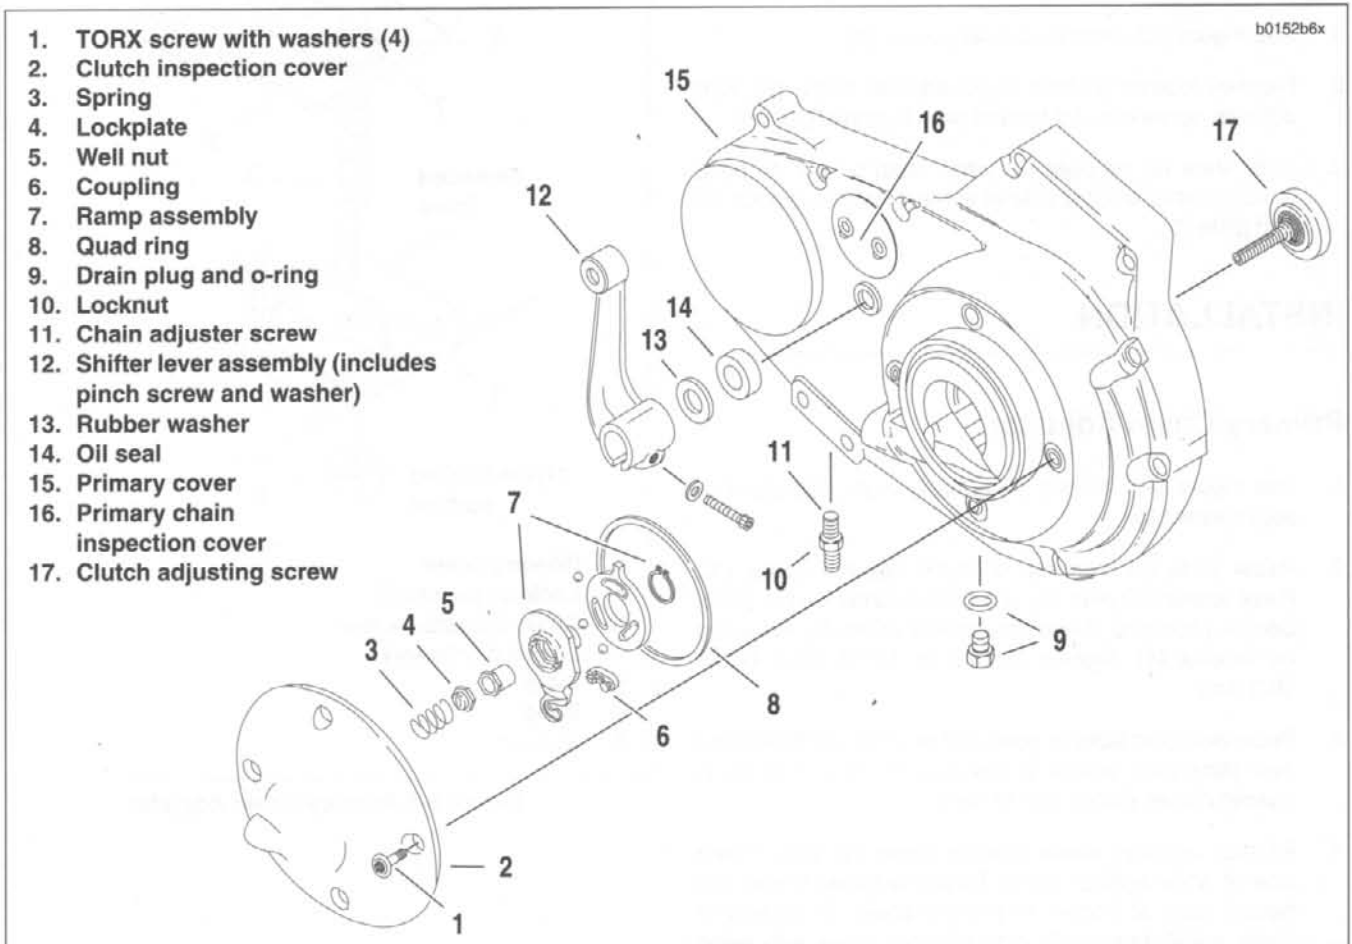
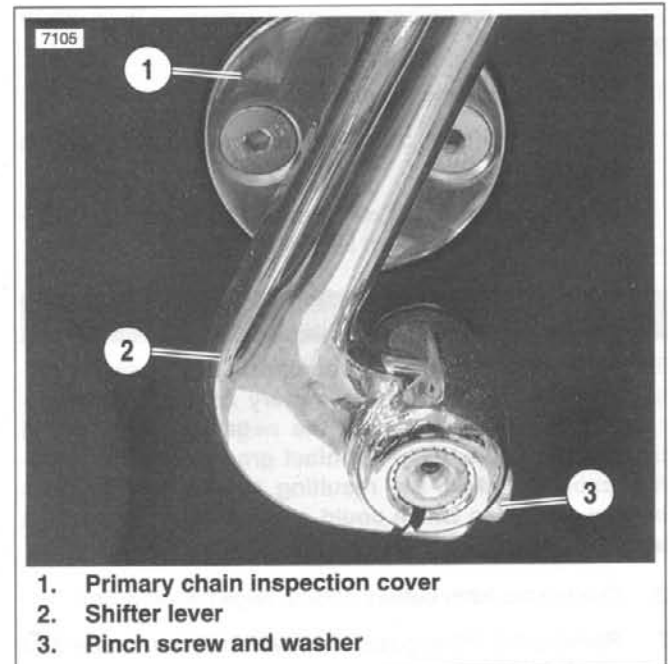

Figure 6-1. Primary Cover
Figure 6-5. Shifter Lever
3. See Figure 6-1. Place a drain pan under the engine. Remove drain plug (9) and drain lubricant from primary drive.
4. See Figure 6-1. Install **new** shifter lever oil seal (14).
5. Fit coupling (6) over cable end with rounded side inboard, the ramp connector button outboard. With retaining ring side of ramp assembly facing inward, place hook of ramp (7) around coupling button and rotate assembly counterclockwise until tang on inner ramp fits in slot of primary cover.
6. Thread well nut (5) on adjusting screw (17) until slot of screw is accessible with a screwdriver. Fit well nut hex into recess of outer ramp and turn adjusting screw counterclockwise.
10. Install rubber washer (13) and shifter lever assembly (12).
11. See Figure 6-5. Shifter lever (2) must bisect primary chain inspection cover (1). Tighten pinch screw (3) to 100-120 **in-lbs** (11.3-13.6 Nm).